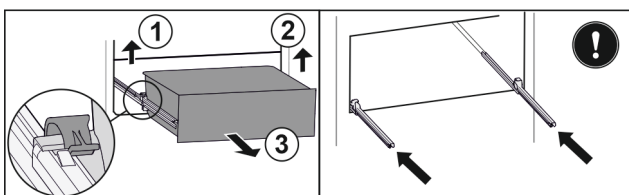

Fig. 27*
- ▶ Lift the left clamp and simultaneously pull the drawer on the left to the front Fig. 27 (1).*
- ▶ Lift the right clamp and simultaneously pull the drawer on the right to the front Fig. 27 (2).*
- ▶ Remove the drawer to the front Fig. 27 (3).*